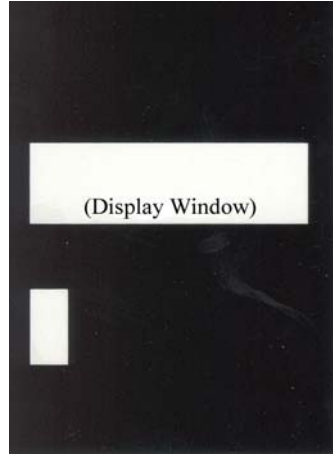

Figure 7
- Slide the selection keypad bezel apart from the front of the drawer and carefully remove the Red/Silver plastic display cover. Replace this with the Retrofit display cover, 05-0090-01 after its protective plastic cover is removed from both sides. Make sure the cover is oriented like the below figure 7 when looking at front of machine with the door shut.